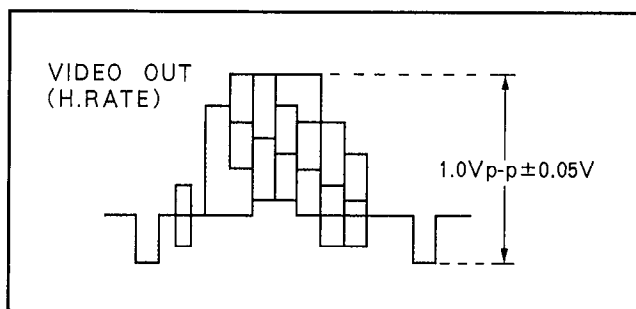

Fig. E7
2. Adjust VR30005 so that Y level is $1.0\text{V} \pm 0.05\text{Vp-p}$. (Refer to Fig. E7)